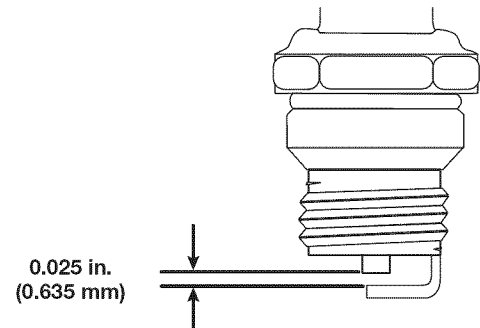

Fig. 15
4. Use a feeler gauge to set the air gap at **0.025 in. (0.635 mm)** (Fig. 15).